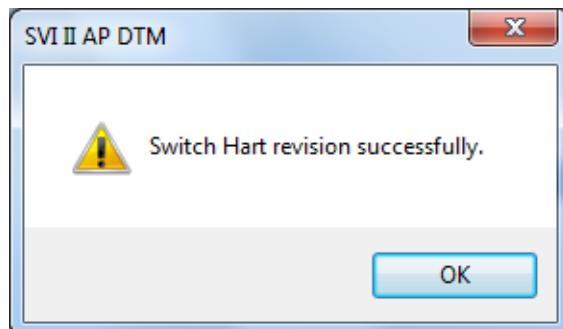

Figure 111 Success
3. Click **OK** and Figure 111 appears.